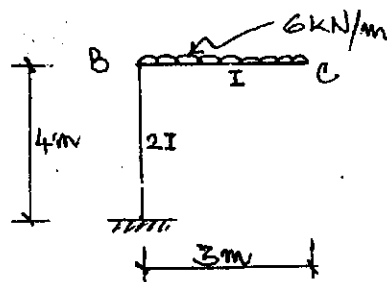

Fig.Q6(a)
- 6 a. Find the value of vertical deflection at C for the structure shown in Fig.Q6(a) by Castiglione's theorem.